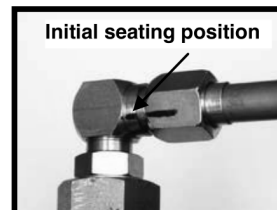

Fig.21 Mark finger tight position
4. Mark nut and adjacent fitting surface to indicate initial seating position. See Fig.21.